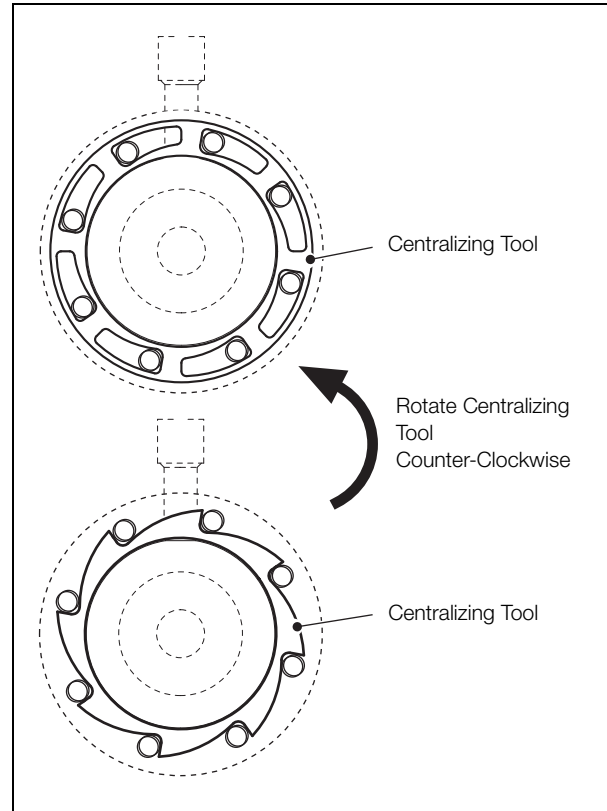

Fig. 2.7 Centralizing Tool
**Note.** One of two types of centralizing tool is supplied with the meter – see Fig. 2.7.
10. Referring to Fig. 2.7, rotate the centralizing tool to push the bolts against the outer edge of the bolt holes.